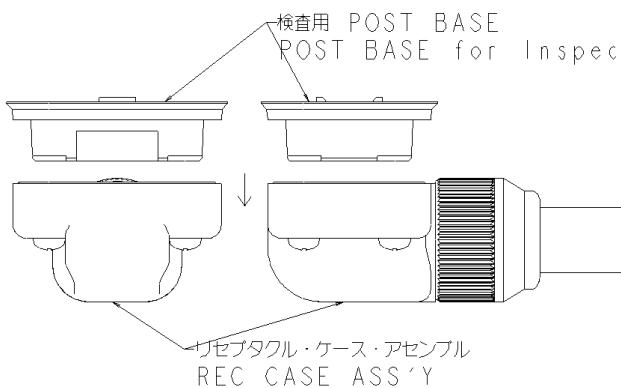
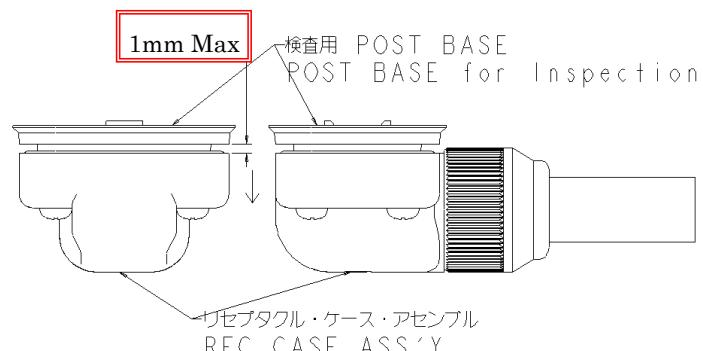

Fig. 18-1
Fig. 18-2
ため、検査用 POST BASE を Fig18-1 のように自然
落下させ、Fig18-2 のようにリセプラグ・ケース・
18) To ensure no leaning on the Rec Housing in the assembled Receptacle Case Assembly, please implement a free-fall test with the POST BASE for inspection as shown in Fig 18-1 and confirm that the space between Receptacle Case Assembly and the POST BASE is within 1mm as shown on Fig 18-2.